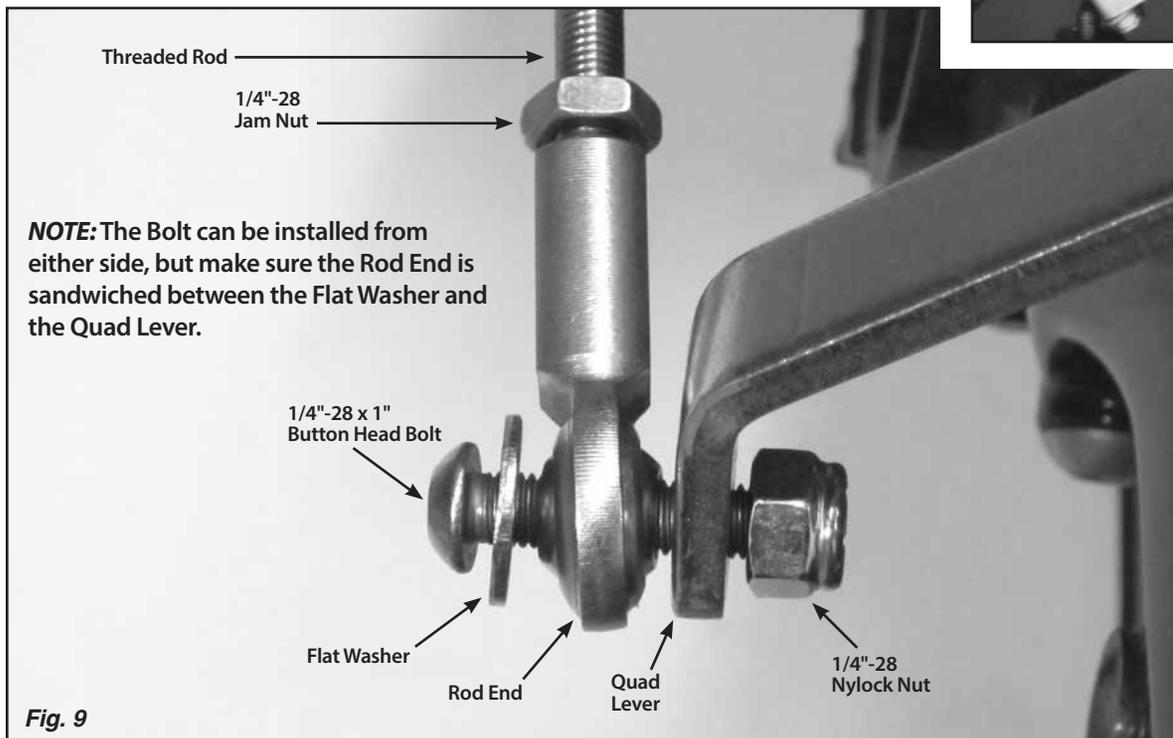

Fig. 9
Step 14: Verify that both 1/4"-28 jam nuts are on the threaded rod, and install a rod end onto each end of the threaded rod. Attach the threaded rod assembly to the **outside** of the quad lever and to the **inside** of the trans arm using the 1/4"-28 x 1" button head bolts, flat washers, and nylock nuts as shown in Fig. 9 and Fig. 10. The button head bolts can be installed from either direction, but make sure the rod end is sandwiched between the flat washer and the quad lever or trans arm.